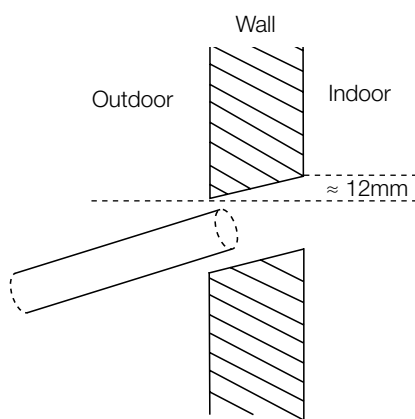

Fig. 6.4
- Using a 65mm core drill, drill a hole in the wall. Make sure that the hole is drilled at a slight downward angle, so that the outdoor end of the hole is lower than the indoor end by about 12mm. This will ensure proper water drainage (See Fig. 6.4). Place the protective wall cuff in the hole. This protects the edges of the hole and will help seal it once you finish installation.